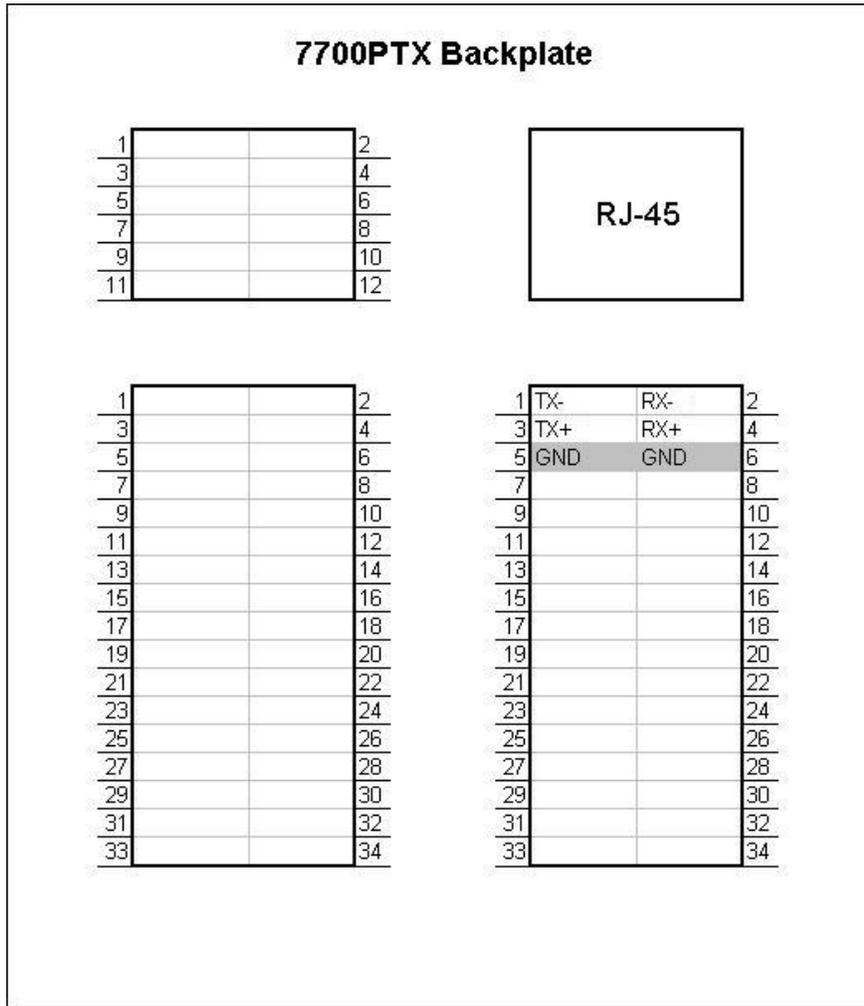

Figure 2-2: RS-422 Pins
| Figure 2-2: RS-422 Pins | 4 |
2. Connect the RS-422 pins of the 7700PTX-MVS to those of the switcher. See Figure 2-2 and Table 2-1.